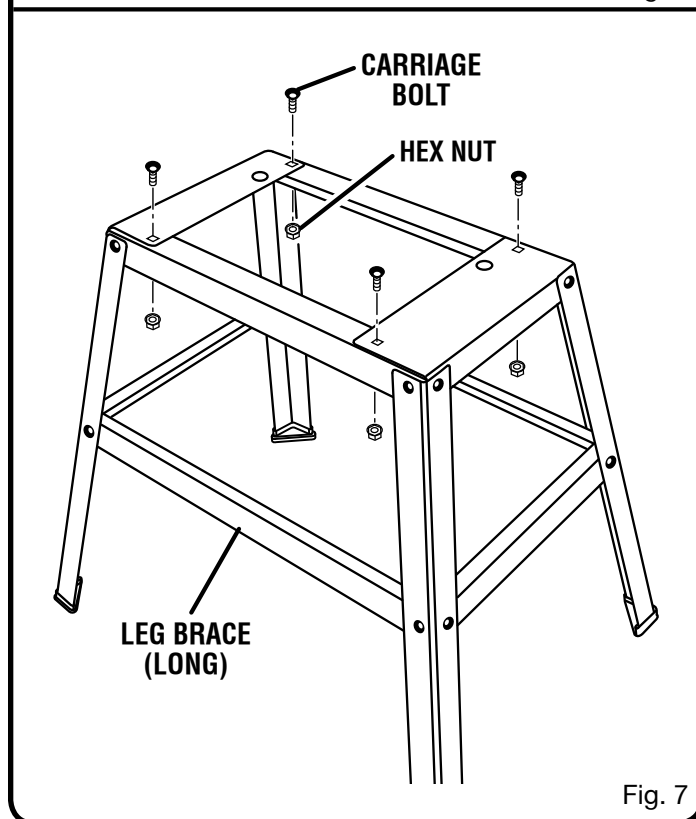

Fig. 7
- For the side sets, install a side brace on two legs. Add hardware and finger tighten. Repeat for the other side brace. See Figure 7.